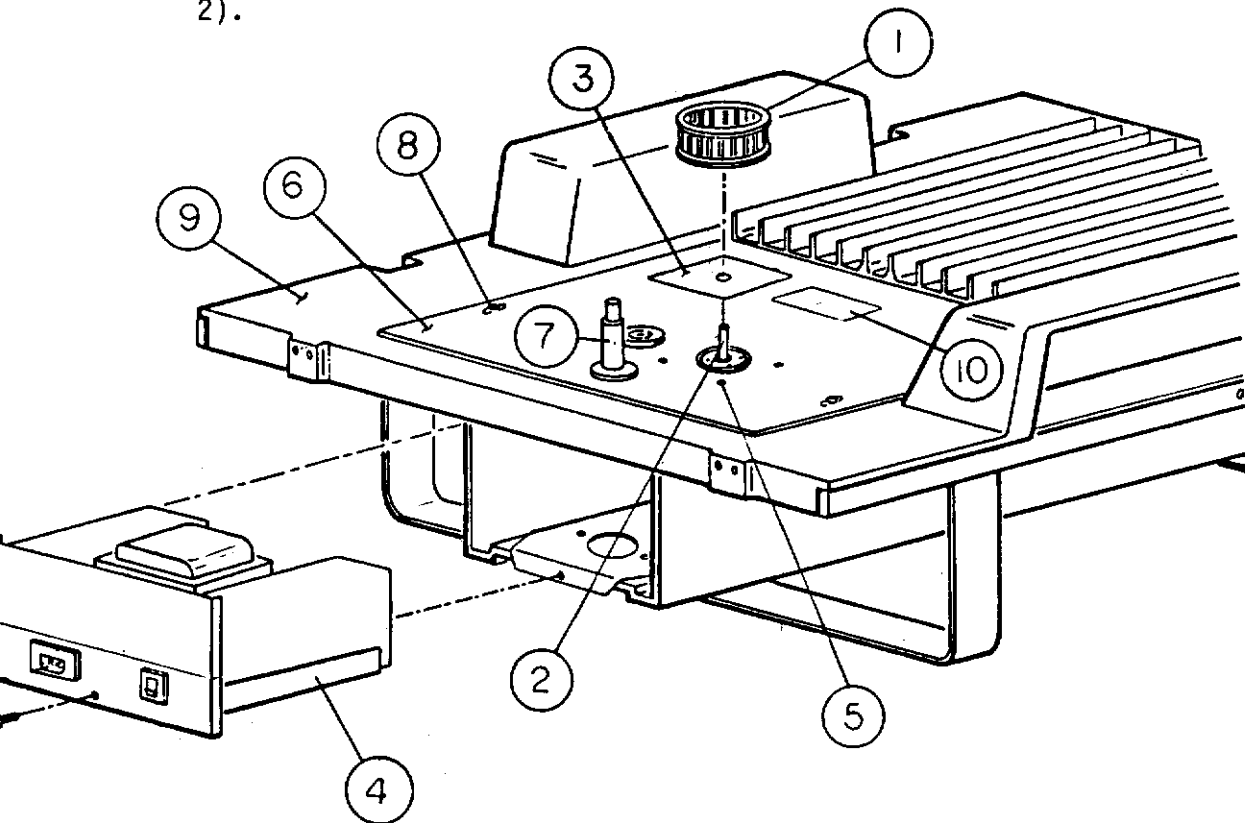

FIGURE 5.5 AIR INLET PLATE REPLACEMENT
- 2. REFER TO FIGURE 5.5 and proceed as follows:
- A. Remove the Impeller (item 1) from the Fan Motor Shaft (item 2).